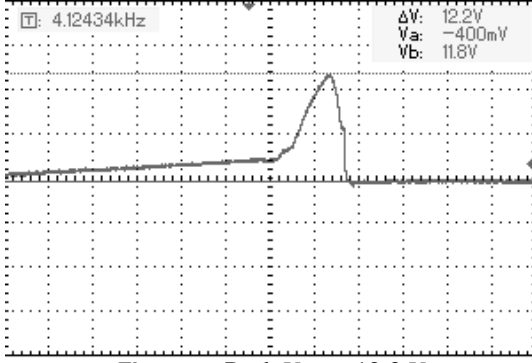
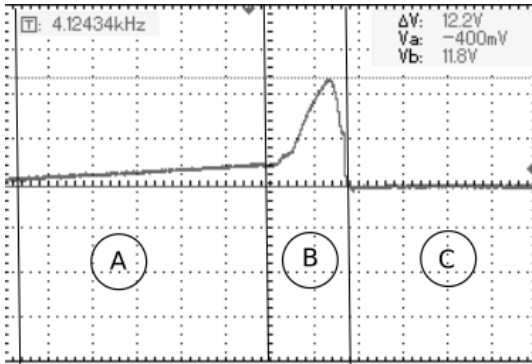

Figure 4. Peak  $V_{GS} = 12.2\text{ V}$
Figure 5. Peak  $V_{GS} = 12.2\text{ V}$
Analyzing Figure 4 we can see the control circuit waveform at power transistor gate ( $V_{GS}$ ). It's quite different as we expected and you expected a square wave but it's waveform makes sense. Let's analyze it step by step.
Now dividing information in Figure 4 into 3 parts (A, B and C) and showing in Figure 5 below:
**Analyzing A region:** In region A (Figure 5), power transistor in  $Q_1$  (Figure 1) and transistor  $Q_2$  is *off*.  $Q_2$  transistor is *off* because there are no current in sensor drain  $I_{sensor}$  and output value  $V_O$  is below threshold voltage reference (negative feedback disabled).  $Q_1$  transistor is *off* because positive feedback is disabled by voltage applied in the gate is below ( $V_{th} \approx 4\text{ V}$ ), where,  $V_{th}$  is threshold voltage of the power transistor  $Q_1$ . Static protection is enabled only if some atypical behavior (malfunction) occurs. Only current source  $I_{sink}$  is driving the gate of  $Q_1$ . Region A is also known as dead-time, where negative feedback is off and there are no magnetic energy into the transformer core. Decreasing dead-time, we can increase performance increasing output power. Adjusting  $I_{sink}$  we could improve switching for this application. We can also estimate capacitance including gate and circuitry capacitance using only result obtained from measurements in Figure 4.